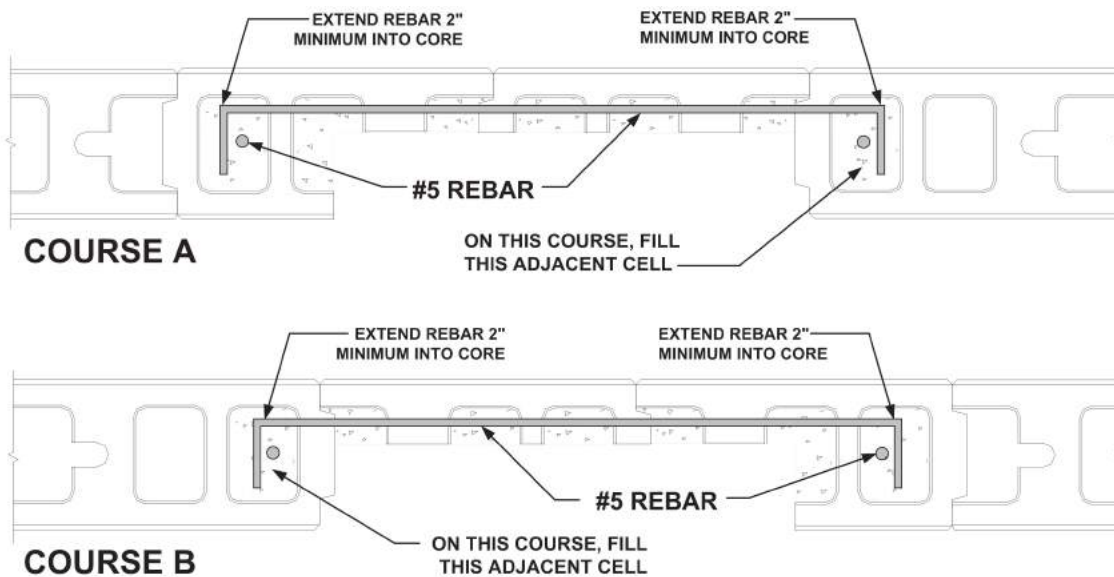

Fig. 5.14c
12. Along with filling the partial cells of the modified units, fill one cell of an unmodified adjacent unit on either end (Fig. 5.14c). Place vertical rebar in these cells. This will be easier after four courses are laid. The rebar extends up the wall and into the bond beam.
13. Place short sections of horizontal rebar at each course to secure the modified units, and tie them into the rest of the wall (Fig. 5.14c). Depending on the specifications, this can be done at each course, or every other course.